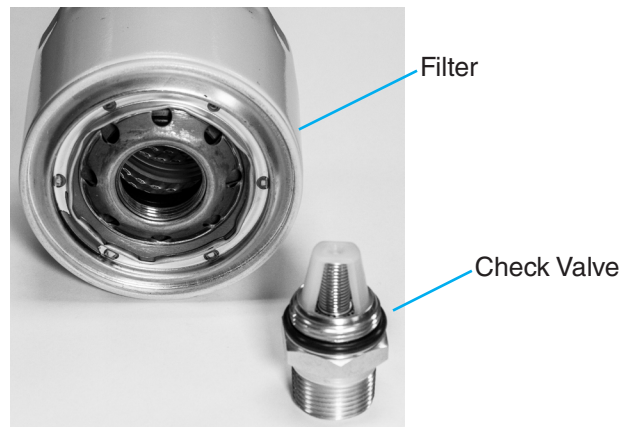

Figure 5-5-15 Breather Assembly
5. Remove the check valves. Discard the old filters in accordance with local regulations. See Figure 5-5-15.